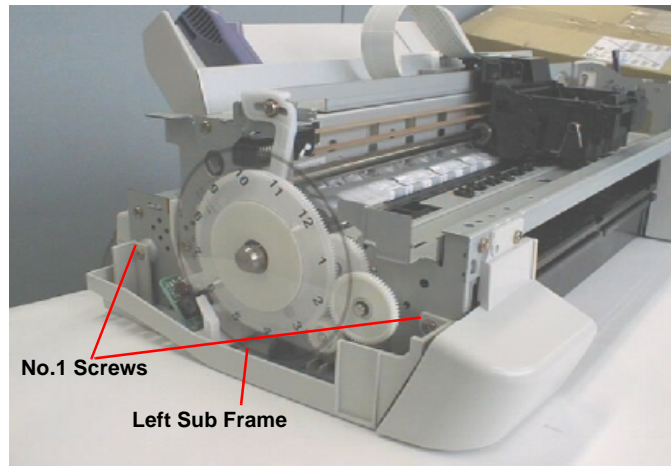

Figure 4-9. Removing the Left Housing Panel & Left Sub Frame
- 2) Remove one screw (No.1) securing the Left Housing Panel to the Printer Mechanism. Refer to Figure 4-9.
- 3) Remove two screws (No.1) securing Left Sub Frame and remove Left Sub Frame. Refer to Figure 4-9.